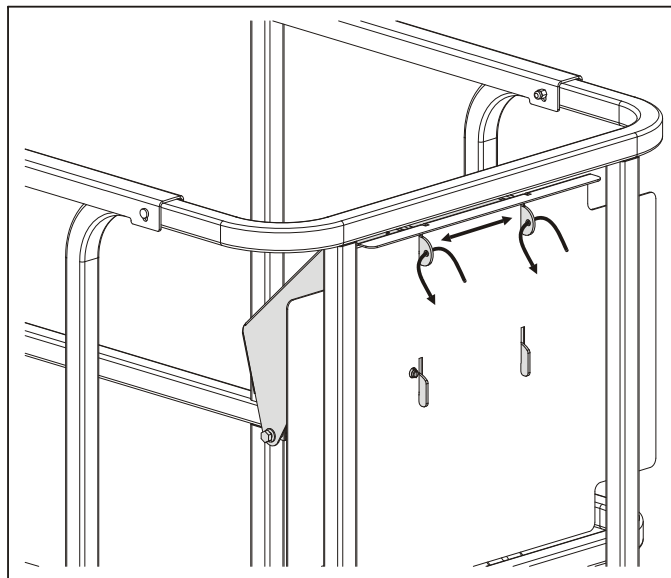

Figure 3-8. Securing Control Station to Platform
6. Turn the power selector switch to "Off" and remove the key to disable the machine and prevent unauthorized use. The platform control station can also be secured to its mounting plate, see Figure 3-8.